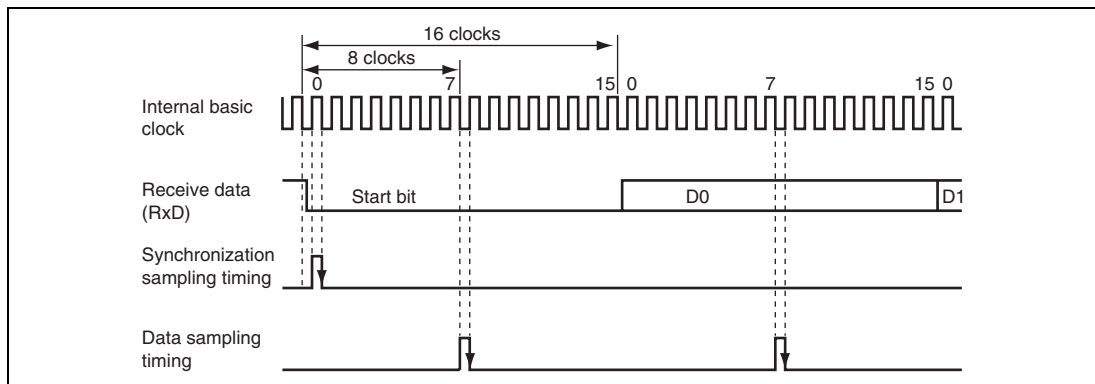

Figure 17.19 Receive Data Sampling Timing in Asynchronous Mode
In asynchronous mode, the SCI3 operates on a basic clock with a frequency of 16 times the transfer rate. In reception, the SCI3 samples the falling edge of the start bit using the basic clock, and performs internal synchronization. Receive data is latched internally at the rising edge of the 8th pulse of the basic clock as shown in figure 17.19. Thus, the reception margin in asynchronous mode is given by formula (1) below.